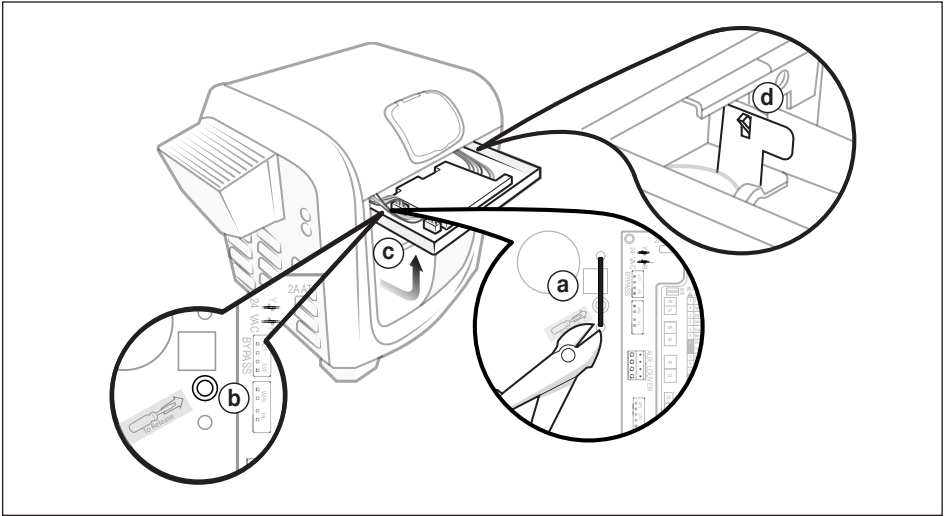

Figure 4. Access and Latch Raceway
- Cut the zip tie to release raceway. See *Figure 4 (a)*.
- Using a screwdriver or comparable tool; press into the raceway release orifice until the raceway latch releases and the raceway swings free. See *Figure 4 (b)*.
- Swing the raceway up into a horizontal position. See *Figure 4 (c)*.
- Latch raceway into position using the bracket. See *Figure 4 (d)*.